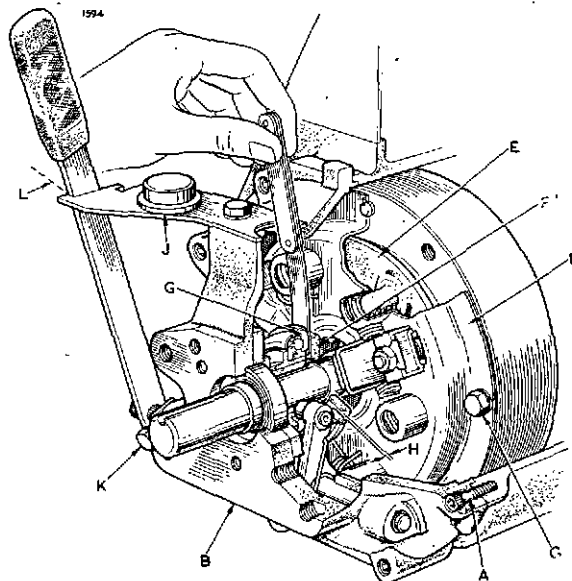

Fig. 17
67. Clutch (single-plate) (Fig. 17)
- (i) Remove the screws (A) securing the clutch housing (B) to the crankcase and withdraw the housing complete with the operating lever and shaft.
- (ii) Slacken each setscrew (C) securing the clutch to the flywheel half a turn at a time working diagonally across the clutch until all the clutch spring pressure is released. Remove the setscrews.
- (iii) Remove the clutch (D) and clutch plate (E) from the flywheel. The clutch is dowelled to the flywheel.